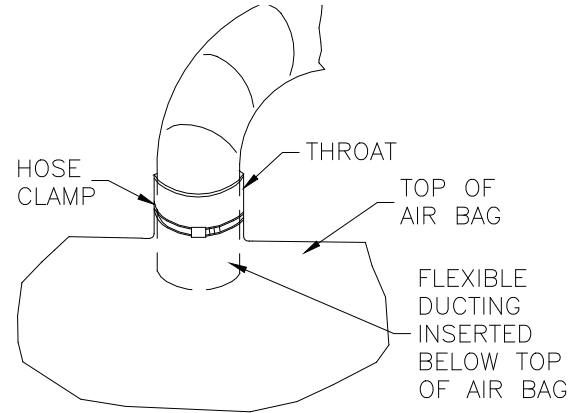

FIG. 11B
- * Place deep enough into Air Bag so that Flexible Ducting extends below top of Air Bag (Figure 11b).**Repeat** for other throat.